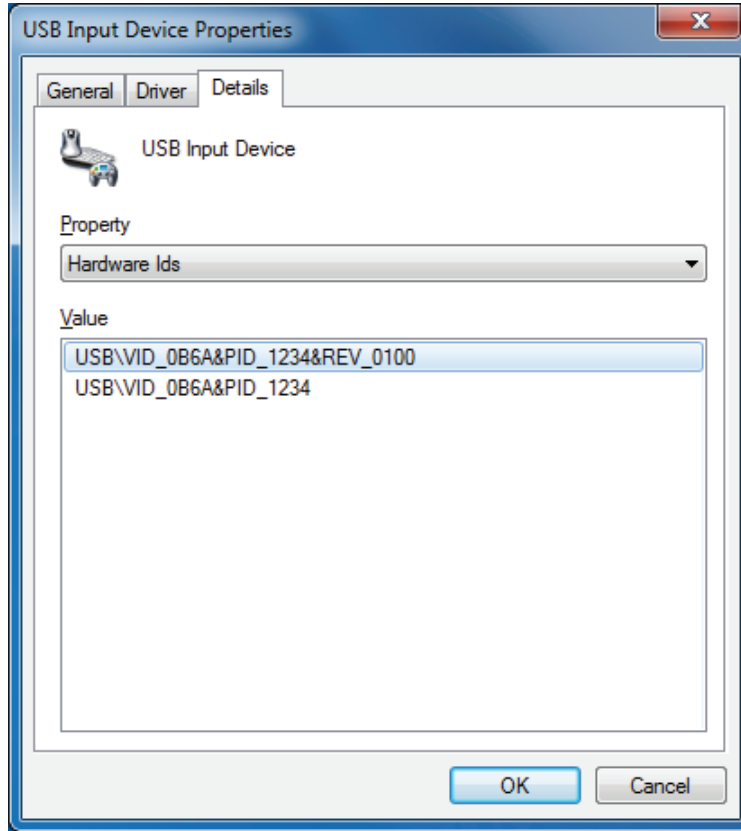

Figure 1. USB Input Device Properties
**Device Manager\Human Interface Control\USB Input Device\Properties→USB\VID\_0B6A and PID\_1234**. See Figure 1.